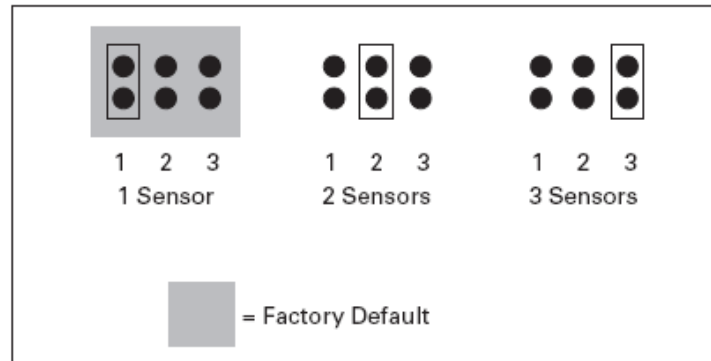

Figure 45: Option Board B8 Jumper Selections
**Jumpers:** 1; X2 (see **Figure 45**)